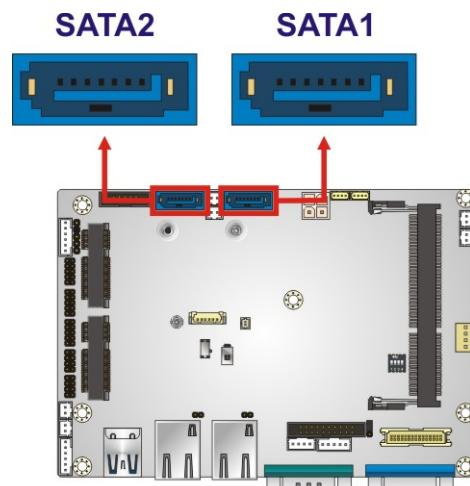

Figure 3-20: SATA 6Gb/s Connector Locations
**CN Label:** SATA1, SATA2**CN Type:** 7-pin SATA drive connector**CN Location:** See **Figure 3-20****CN Pinouts:** See **Table 3-20**